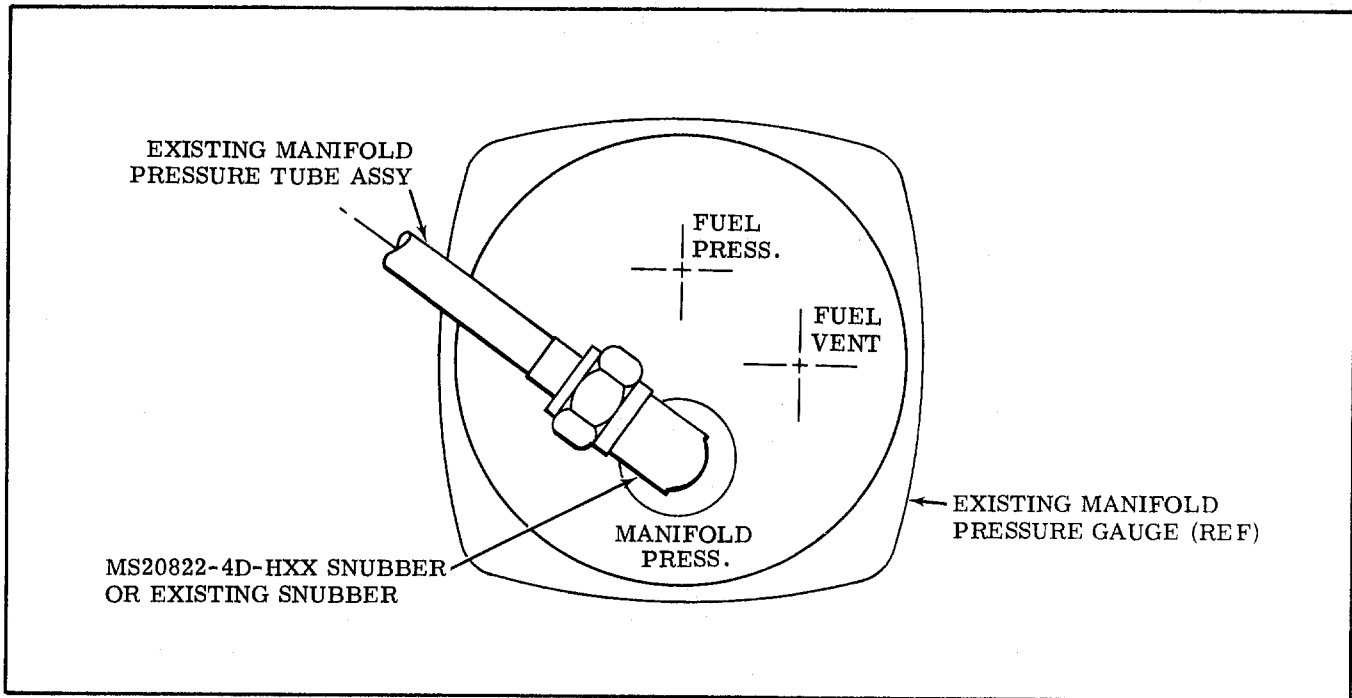

Figure 1.
1. Disconnect manifold pressure tube assembly from existing fitting in manifold pressure gauge port (see Figure 1.).
5. Install MS20822-4D-HXX pressure snubber in manifold pressure gauge (see Figure 1.).
6. Connect existing manifold pressure tube assembly to pressure snubber (see Figure 1.).
1. Disconnect manifold pressure tube assembly from existing pressure snubber in manifold pressure gauge port (see Figure 1.).
5. Install existing pressure snubber in manifold pressure gauge (see Figure 1.).
6. Reconnect existing manifold pressure tube assembly to existing pressure snubber (see Figure 1.).